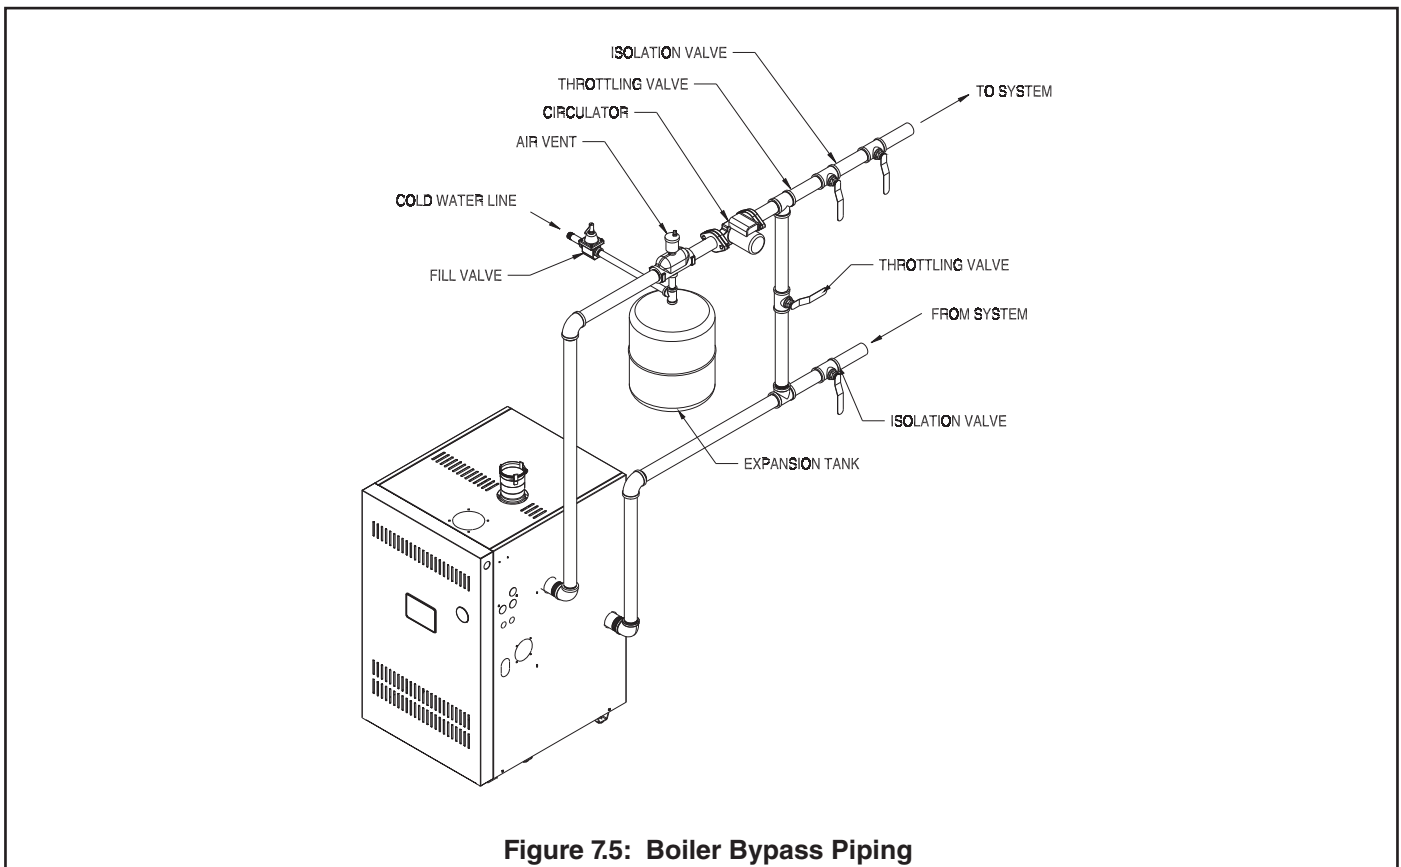

Figure 7.5: Boiler Bypass Piping
3. Large Water Volume Systems - The piping shown in Figure 7.5 will minimize the amount of time that the boiler operates with return temperatures below 120°F on these systems. A bypass is installed as shown to divert some supply water directly into the return water. The bypass pipe should be the same size as the supply. The two throttling valves shown are adjusted so that the return temperature rises above 120°F during the first few minutes of operation. A three-way valve can be substituted for the two throttling valves shown. If the circulator is mounted on the supply, the bypass must be on the discharge side of the circulator.